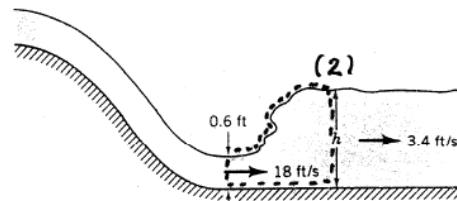

FIGURE P5.8(1)
5.8 A hydraulic jump (see Video V10.5) is in place downstream from a spill-way as indicated in Fig. P5.8. Upstream of the jump, the depth of the stream is 0.6 ft and the average stream velocity is 18 ft/s. Just downstream of the jump, the average stream velocity is 3.4 ft/s. Calculate the depth of the stream, h , just downstream of the jump.